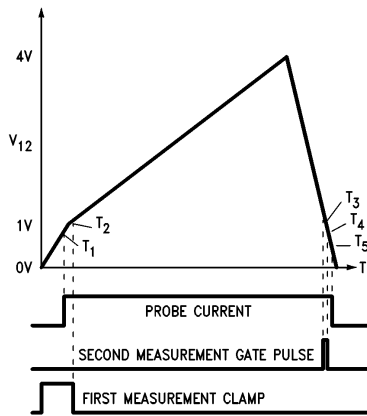

FIGURE 5
**Note 6:** Probe 1 amplifier tests are measured with pin 12 ramp voltage held between the  $T_3$  and  $T_4$  conditions (pin 12  $\approx 1.1V$ ) having previously been held above 4.1V to simulate ramp action. See Figure 5.
These probes require measurements to be made of their resistance before and after power has been dissipated in them. With a probe connected as probe 1 in the connection diagram the LM1042 will start a measurement when pin 8 is taken to a logic low level ( $V_8 < 0.5V$ ) and the internal time-base ramp generator will start to generate the waveform shown in *Figure 5*. At  $0.7V$ ,  $T_1$ , the probe current drive is switched on supplying a constant  $200\text{ mA}$  via the external PNP transistor and the probe failure circuit is enabled. At  $1V$  pin 1 is unclamped and  $C_1$  stores the probe voltage corresponding to this time,  $T_2$ . The ramp charge rate is now reduced as  $C_T$  charges toward  $4V$ . As the  $4.1V$  threshold is passed a current sink is enabled and  $C_T$  now discharges. Between  $1.3V$  and  $1.0V$ ,  $T_3$  and  $T_4$ , the amplified pin 1 voltage, representing the change in probe voltage since  $T_2$  (and as the current is constant this is proportional to the resistance change) is gated onto the memory capacitor at pin 14. At  $0.7V$ ,  $T_5$ , the probe current is switched off and the measurement cycle is complete. In the event of a faulty probe being detected the memory capacitor is connected to the regulated supply during the gate period. The device leakage at pin 14 is a maximum of  $2\text{ nA}$  to give a long memory retention time. The voltage present on pin 14 is amplified by 1.2 to drive pin 16 with a low impedance,  $\pm 10\text{ mA}$  capability, between  $0.5V$  and  $4.7V$ . A new measurement can only be started by taking pin 8 to a low level again or by means of the repeat oscillator.